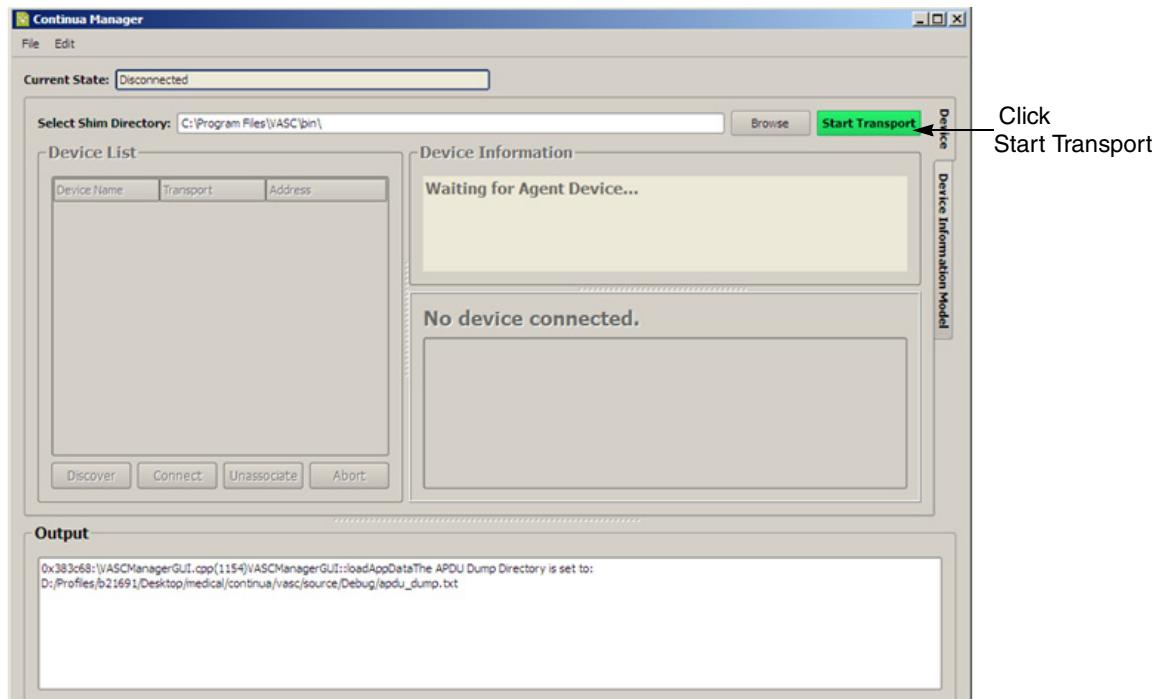

Figure C-5. Continua Manager window
4. The Continua Manager GUI opens as shown in Figure C-5. Enter the name of the skim directory and click on the **Start Transport** button.